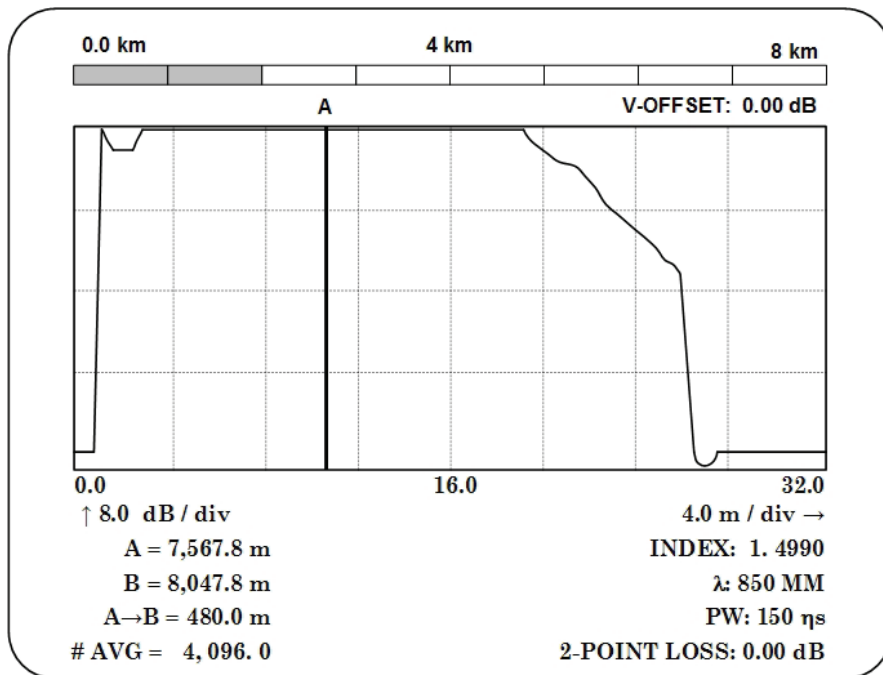
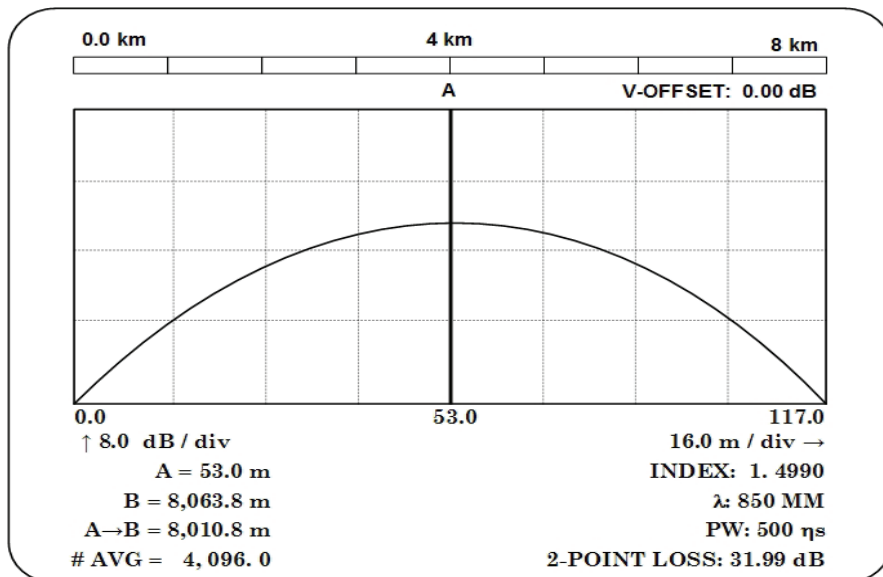

Figure 10. Example of cursor A on approximate middle of dead zone pulse with no peak evident (TD-260C shown for example).
Figure 11. Example of cursor A on peak of dead zone pulse- (TD260C).
(18) Adjust **CURSOR A** control to place cursor A on peak (or approximate middle if no peak is evident) of TI dead zone pulse (fig. 10) or peak of dead zone pulse if peak is evident (TD-260C and TD-261C optical modules) (fig. 11). Record A= distance indicated on TI display on appropriate Reference Cursor Position Data Sheet (appendix A).